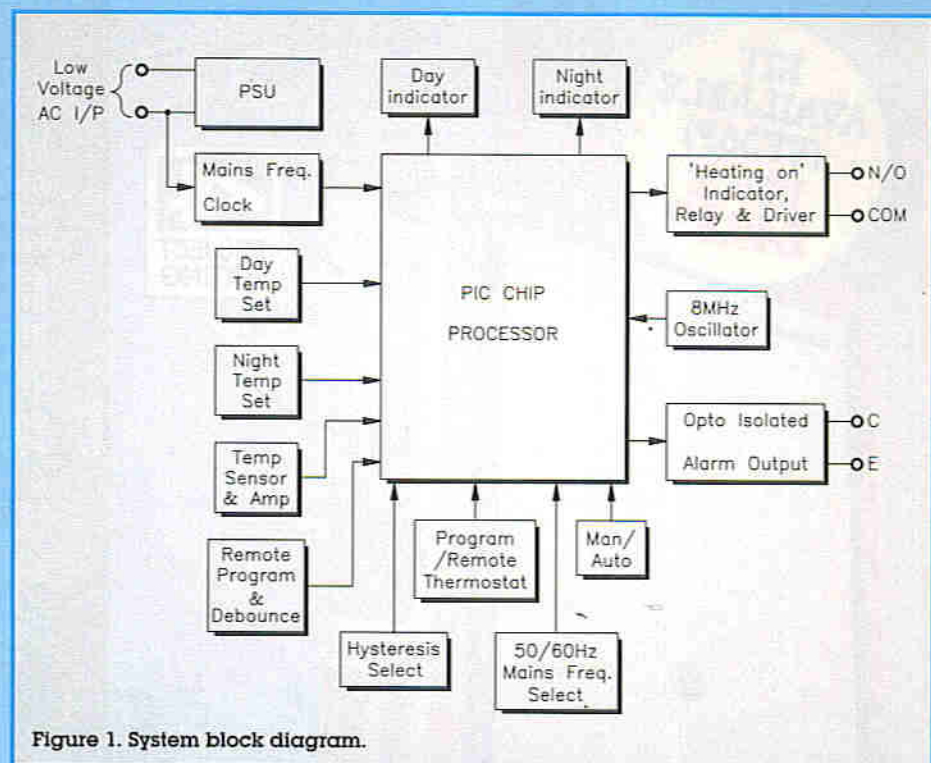

Figure 1. System block diagram.
**A** BLOCK diagram showing the day/night thermostat is shown in Figure 1. The output is in the form of a single pole change-over relay, offering normally open (NO) and normally closed (NC) configurations for connection. The contacts' side is isolated from the thermostat electronics and connections are made using PCB mounted screw terminal blocks. The contacts are rated at 250V AC at 10A, but PCB connections should not exceed 50V, so a second (slave) relay, suitably rated, will be needed, and will be controlled by the thermostat's relay.